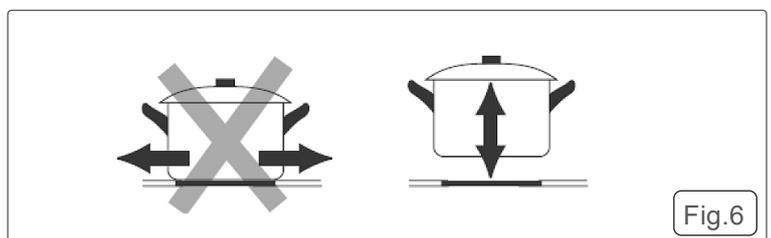

Fig.6
• TO START COOKING (See fig.6)